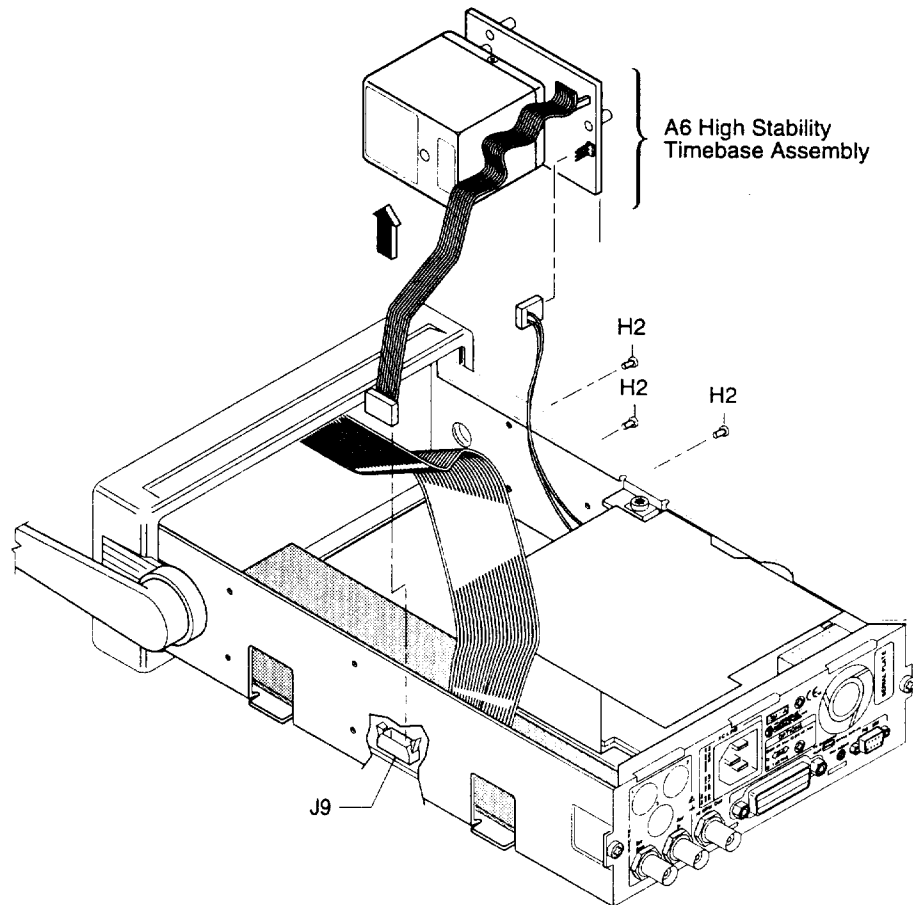

Figure 3-11. Option 001, 010, and 012 A6 High Stability Timebase Assembly Removal
2 Disconnect A6 High Stability Timebase Assembly cable from the J9 connector on A1 Motherboard Assembly as shown in Figure 3-11.
- 4 Remove the three TORX 10 screws (H2) attaching the timebase to the chassis as shown in Figure 3-11.**